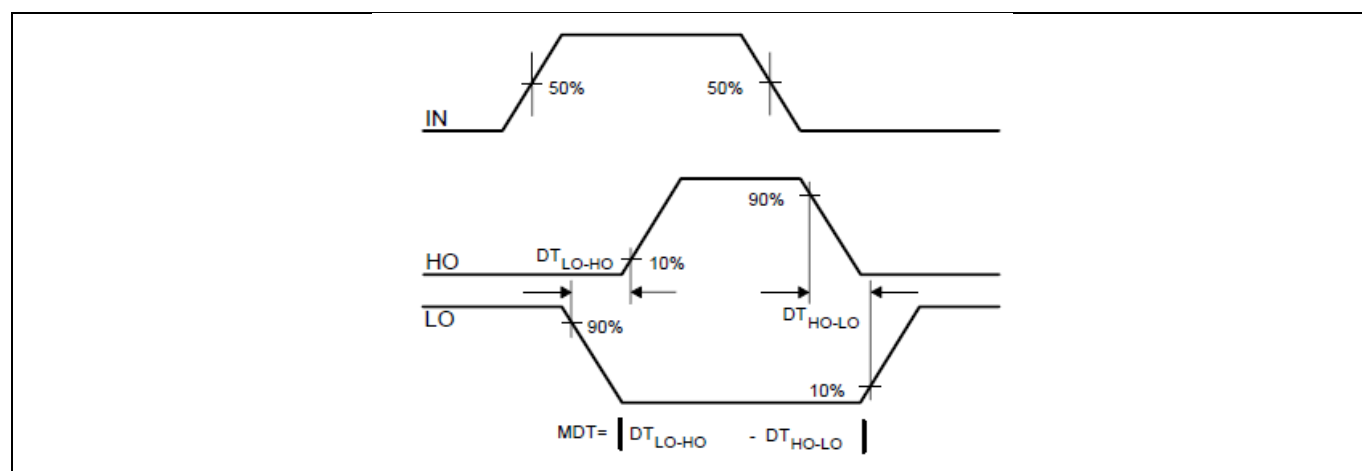

Figure 8 Deadtime matching waveform definition
The deadtime circuitry of 2ED2109 (4) S06F (J) is matched with respect to the high- and low-side outputs. Figure 8 defines the two deadtime parameters (i.e., DT_{LO-HO} and DT_{HO-LO}); the deadtime matching parameter (MDT) associated with the 2ED2109 (4) S06F (J) specifies the maximum difference between DT_{LO-HO} and DT_{HO-LO} .